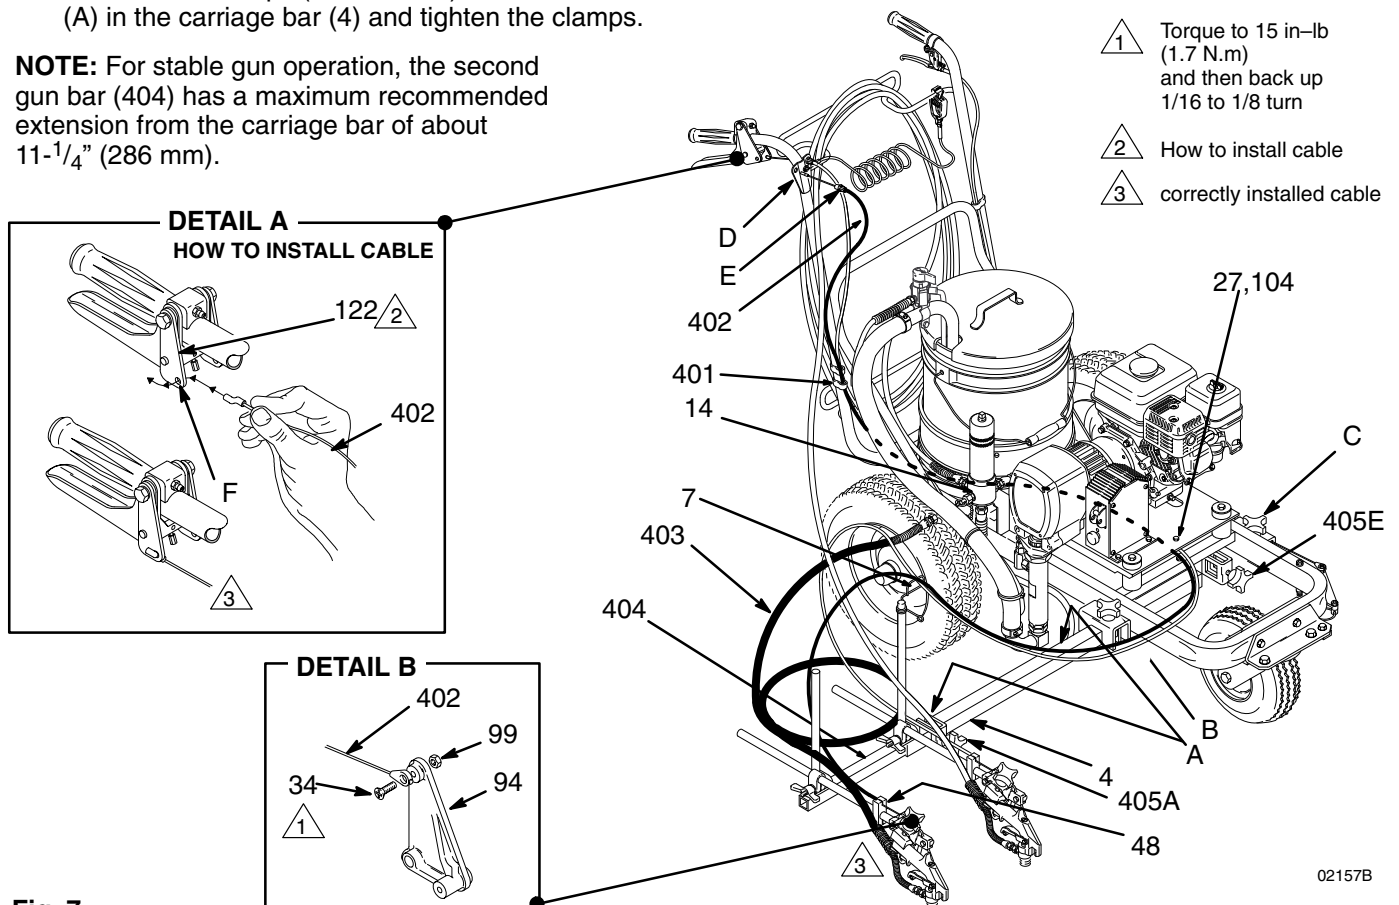

Fig. 7
NOTE: Fig. 7 represents the installation at Step 3.
1. Disengage the trigger cable from the block (48) of the unit's existing gun. See page 21. Engage the gun's trigger safety latch.
2. Loosen the carriage clamps (B, C). Slide the carriage bar (4) off the cart.
3. For mounting the second gun bar on the pump side of the cart: Slide a clamp (405A) onto the carriage bar (4). Slide the carriage bar through the pump-side carriage clamp (B) and into the center of the cart. Now slide another clamp (405B) onto the carriage bar. See Fig. 7.
6. Disconnect the trigger cable from the second gun at the screw (34). See Fig. 7 DETAIL B.
7. Unscrew the filter's second outlet cap (14). Screw the short hose (403) onto the filter nipple.
8. Remove the guide clamp screw (27).
9. Snap the cable bushing (E) into the guide plate (D). Route the trigger cable (402) parallel with the main gun cable, separating the guide clamp (104) to feed the cable through it. Install and tighten the clamp screw (27). Route the cable through the cable guide (7) and to the second gun.
10. Slide the hooked end of the cable (402) through the hole (F) in the lever plate (122). Rotate and slide the hook back until it engages the plate. See DETAIL A.
11. Reconnect the trigger cable to the second gun at screw (34). Torque the screw to 15 in-lb (1.7 N.m), back it off 1/16 to 1/8 turn and then tighten the jam nut (99) while holding the screw (34). Be sure the plate (94) moves freely.
12. Install the clip (401) to hold the cable onto the frame.
13. Connect both trigger cables to the blocks (48). Then adjust the cable tension. See pages 20–22.